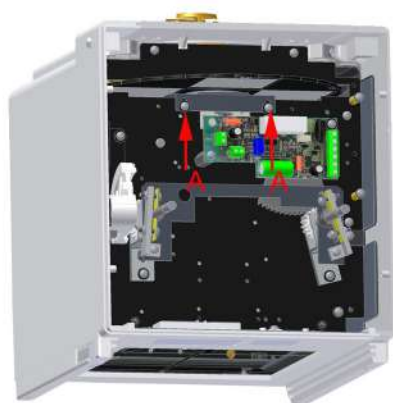
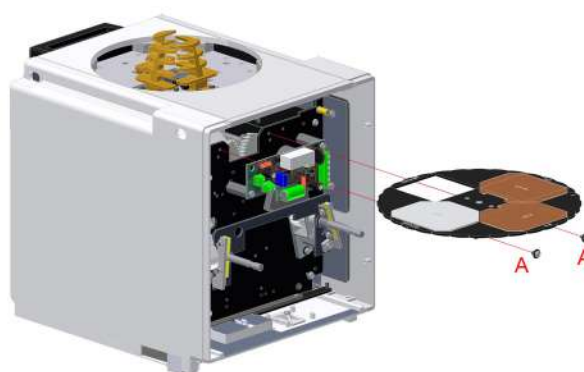

Fig. 3
Fig. 4
- Unscrew the 2 screws **A** holding the filter system on the front plate, see **Fig. 3** and **Fig. 4**.
1. Prepare the collimator to be installed by unscrewing the 4 hexagonal socket screws until the four tabs are completely withdrawn from the collimator top mounting plane, see **Fig. 4 Mounting Screws**.